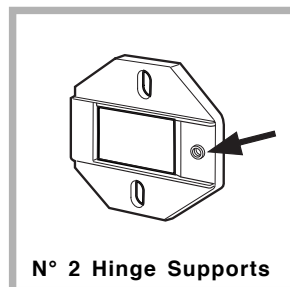

Fig. 1
- Mount the hinge supports onto the face of the machine, positioning the hole indicated by the arrow in *fig. 1* towards the inside of the face and using the type **C** screws.